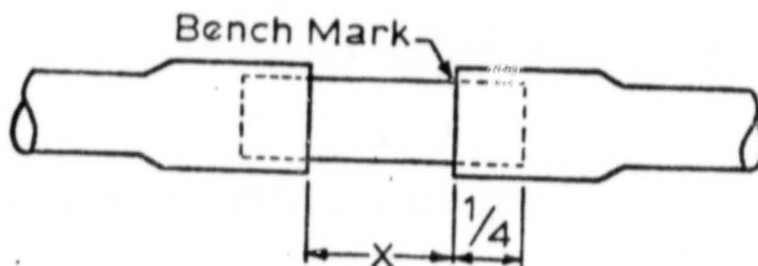

Figure 5
- k) Align swedge of adjacent collector with coupling nipple and slide nipple into swedge until bench mark is in alignment with edge of swedge. See Fig. 5.